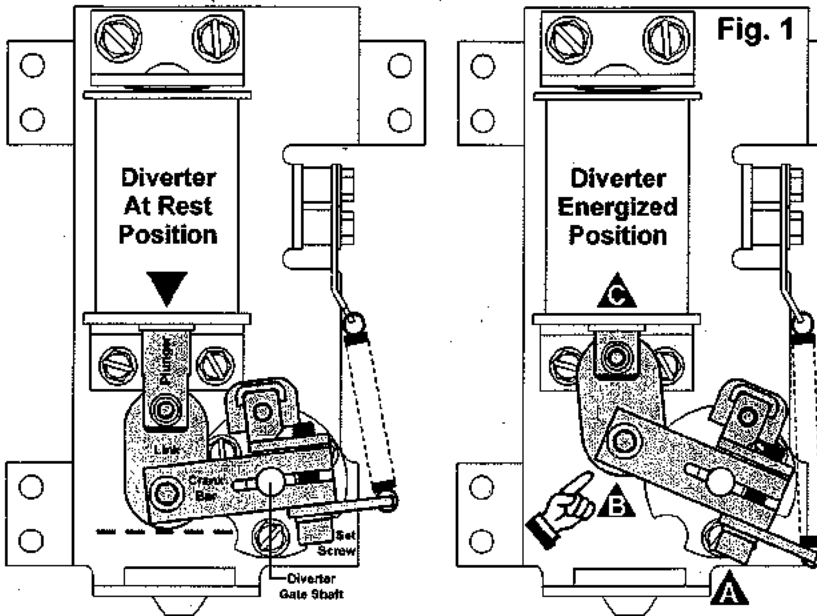
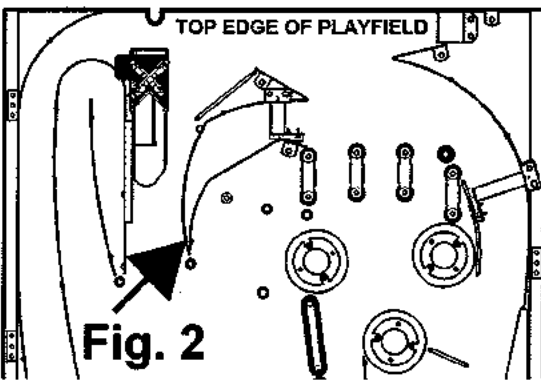

Fig. 1
Fig. 2
Step 1: Under the Playfield, using a 5/32" Allen Wrench, loosen the Set-Screw on the Crank Bar just enough so that the Diverter Paddle can move with a gentle amount of force. Ref. Fig. 1-A.
Step 2: Above the Playfield, position the Diverter Paddle to the Right Side Flat Rail so they touch (opening the gate to the Left Orthanc Tower). Ref. Fig. 2. With your finger, hold the gate in this position until Step 3 is performed.
Step 3: Under the Playfield, push the Diverter Coil Plunger into the Coil Sleeve. Reference Fig. 1-B. With your finger, continue holding in the plunger and release the Diverter Gate (Fig. 2) to perform Step 4. If the Gate moves, refer to Step 1 and retighten just enough to hold in position (Fig. 2).
Step 4: Tighten the Set-Screw on the Crank Bar. Reference Fig. 1-A.